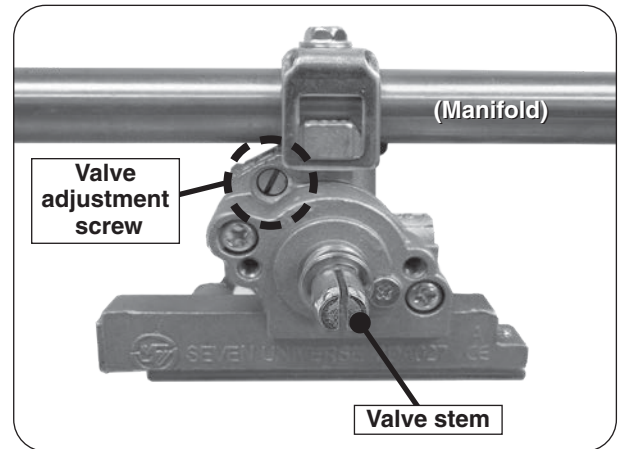

Fig. 31-1 Valve adjustment screw location
5. Locate the FLATHEAD adjustment screw found above the valve stem and below the manifold (see Fig. 31-1).